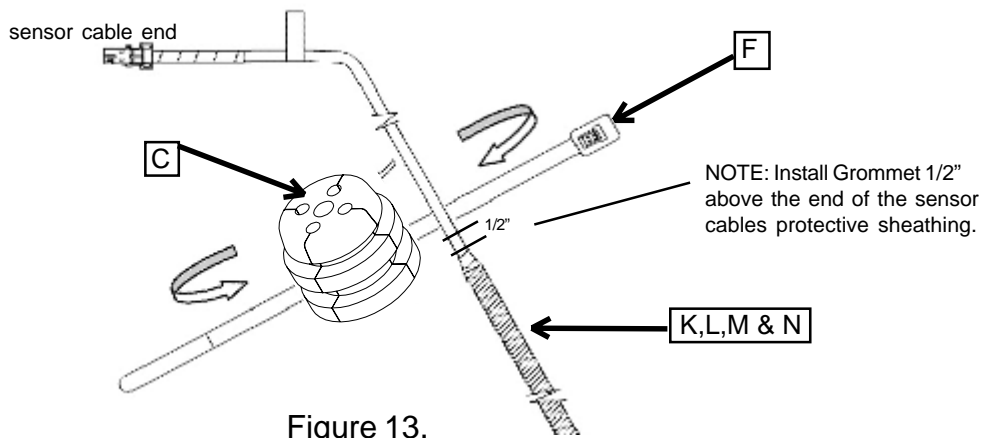

Figure 13.
10.) Install the harness grommet **C** by placing each of the four sensor cables through one of the four slits and use a cable tie **F** to secure the wires into the harness grommet (Figure 13.). Cut excess cable tie material.
**NOTE: The side of the harness grommet with five holes must be closest to the sensor cable ends (see Figure 13).**